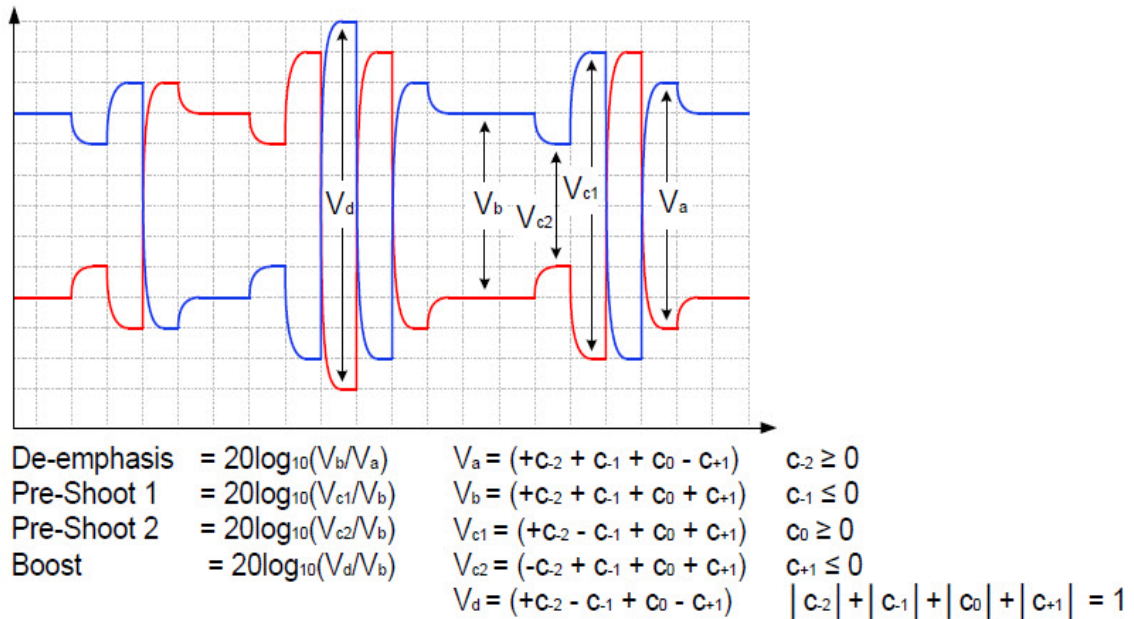

Figure 30 Waveform measurement points for preshoot and de-emphasis
64.0 GT/s PCIe signaling must support the full range of presets given in Table 8-2 (PCI Express Base Specification Revision 6.0). Presets are defined in terms of ratios, relating the pre-cursor and post-cursor equalization voltages. The pre-cursor (V_c) is referred to as pre-shoot, while the post-cursor (V_b) is referred to as de-emphasis. This convention permits the specification to retain the existing 2.5 GT/s and 5.0 GT/s definitions for Tx equalization, where only de-emphasis is defined, and it allows preshoot and de-emphasis to be defined such that each is independent of the other. The tolerances in Table 8-1 (PCI Express Base Specification Revision 6.0) also apply to 2.5 and 5.0 GT/s de-emphasis. The maximum swing, V_d , is also shown to illustrate that, when both c_{+1} and c_{-1} are nonzero, the swing of V_a does not reach the maximum as defined by V_d . The high frequency nature of PCIe signaling makes measurement of single UI pulse heights impractical. Consequently all amplitude measurements are made with low frequency waveforms as shown in Figure 30.
- 13 Computes their equalization voltages by using Matlab, and then calculates equalization ratios by using the formulae stated in Figure 30 (Figure 8-6 of the spec).